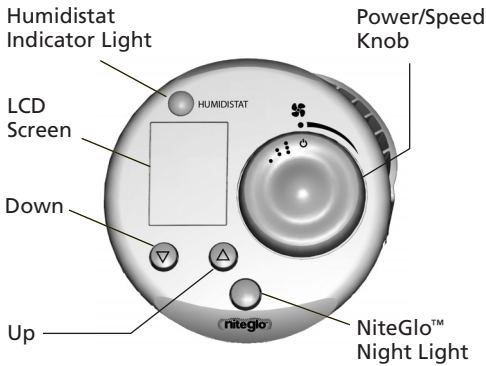

Figure 8
1. **Power/Speed Control:** Turns the humidifier ON and OFF. The power should always be OFF before unplugging the humidifier, moving the humidifier, or refilling the water tank. See Figure 8.